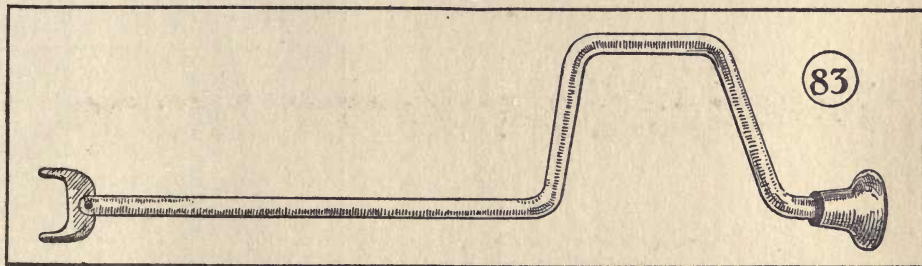

Fig. 83—Valve grinding tool for ordinary shop work
5.—Use a valve grinder such as is shown in Fig 83. It is much easier and quicker than the short ones that are